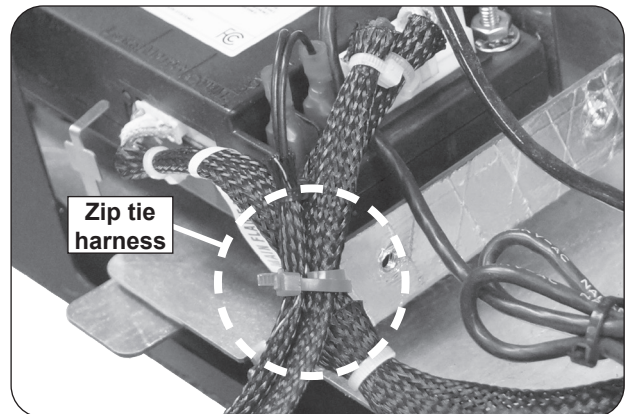

Fig. 2-3 Zip tie harness
2. Zip-tie the new adapter harness to the existing wire harnesses (see Fig. 2-3).